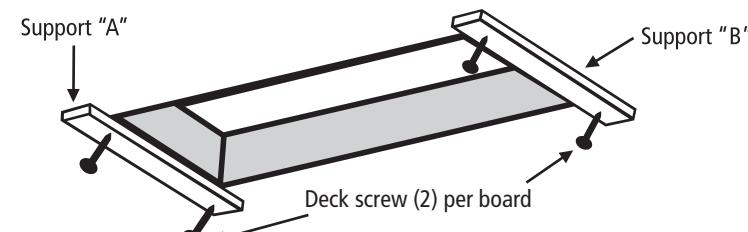

FIGURE 4: View from below
A. Attach temporary supports "A" and "B" with 2 1/2" deck screws as shown in Figure 4.
A. Attach temporary supports "A" and "B" with 2 ½" deck screws as shown in Figure 4.